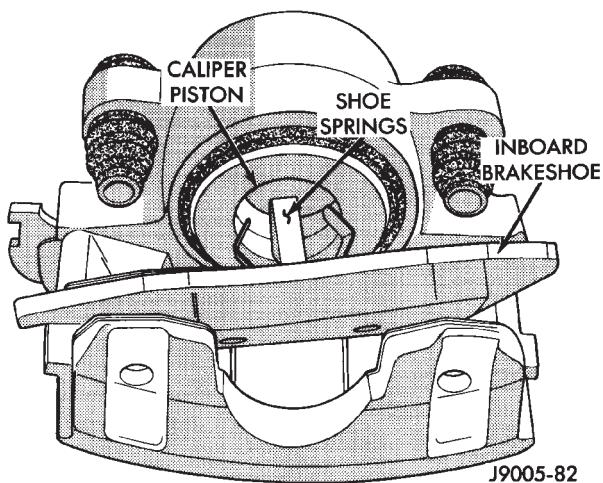

Fig. 32 Inboard Brake Shoe Removal
(5) Grasp ends of inboard shoe and tilt shoe outward to release springs from caliper piston (Fig. 32) and remove shoe from caliper.